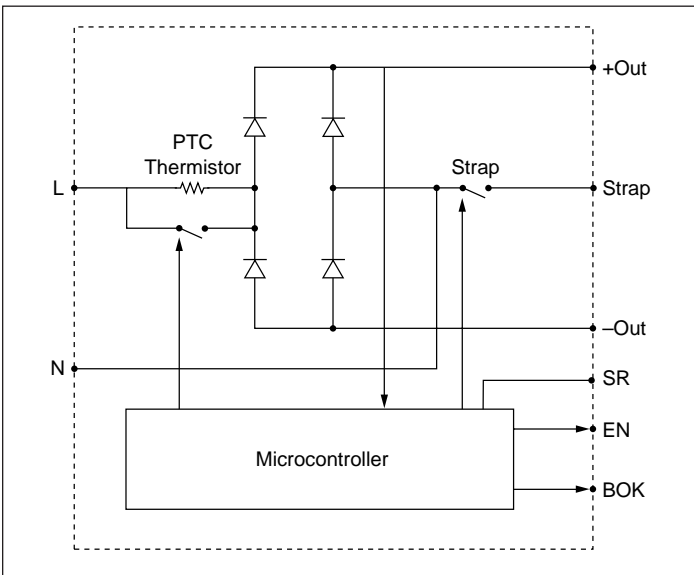

Figure 9—Functional block diagram: FARM3 module
**Functional Description (FARM3, see Figures 9 & 10)**
A signal diode should be placed close to and in series with the PC or (Gate-In) pin of each converter to eliminate the possibility of control interference between converters. The Enable pin switches to the high state (15V) with respect to the SR pin to turn on the converters after the power-up inrush is over. The Enable function also provides input overvoltage protection for the converters by turning off the converters if the DC bus voltage exceeds 400Vdc. The thermistor bypass switch opens if this condition occurs, placing the thermistor in series with the input voltage, which reduces the bus voltage to a safe level while limiting input current in case the varistors conduct. The thermistor bypass switch also opens if a fault or overload reduces the bus voltage to less than 180Vdc. (see Figure 9)